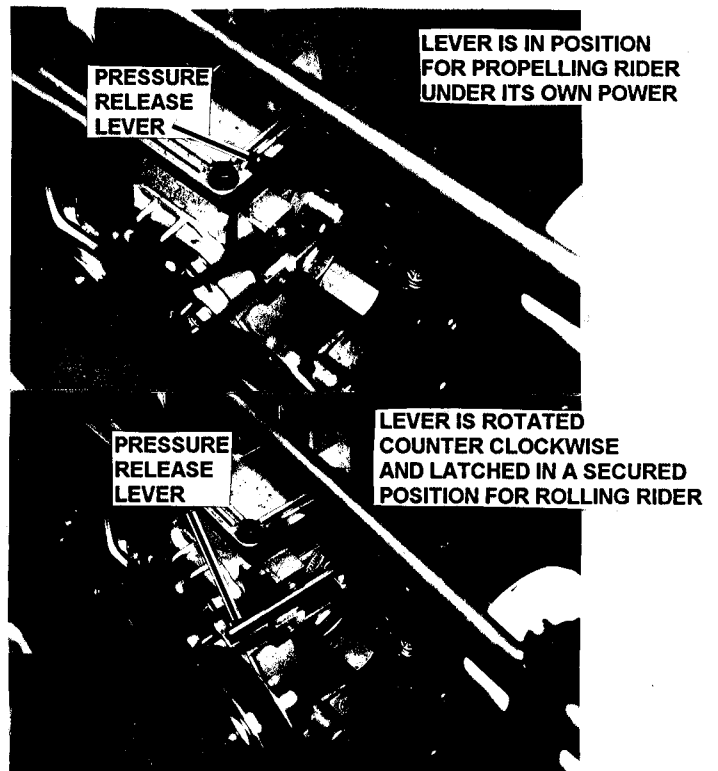

FIGURE 2.3
**IMPORTANT:** To roll the machine without the engine running, pressure within the hydraulic pumps must be released. There is one lever on the upper right side of each pump that is used to release the pressure. Rotate lever counter clockwise and secure in that position. See Figure 2.3